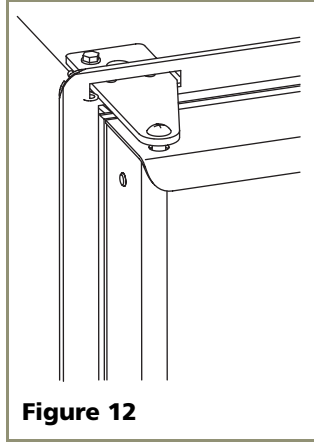

Figure 12
11. Align door pivot hole with pivot hole in upper hinge and insert pivot screw into upper hinge and tighten securely. See **Figure 12**.